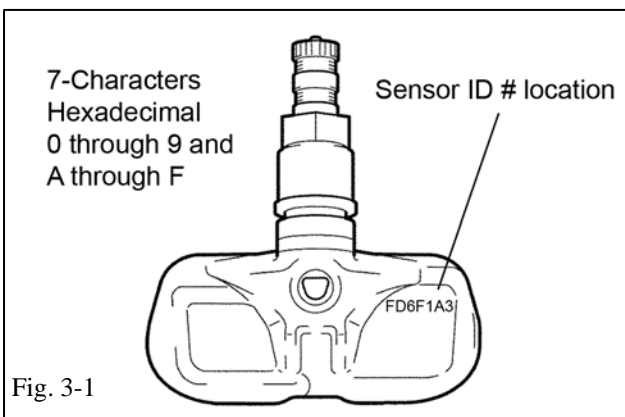

Fig. 3-1
- (a) If previously removed sensor is 20 degree sensor, proceed to step 3 (c). If previously removed sensor is 40 degree sensor, you must install new 20 degree sensors into accessory wheels. When installing new 20 degree sensors, you **MUST** record sensor ID codes for all 4 wheels and register these 4 new ID codes (Fig. 3-1) with the vehicle ECU.
Each sensor has a unique sensor ID code. The sensor ID code is an 7-character hexadecimal string comprised of numbers 0 through 9 and letters A through F. See Fig 3-1 for example code and location.
- (f) Insert the tire pressure monitor valve sub-assembly so that the sensor ID number and text is visible. See Fig. 3-1 & 3-2.